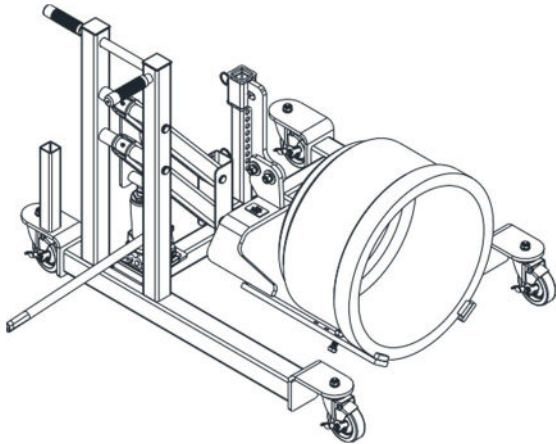

Figure 4
4. Attach the Brake Drum Adapter to the tool post on the Disc Brake Dolly in the direction shown in Figure 4. The Brake Drum Adapter should only be attached in the direction shown. Insert the hitch pin in the top position of the tool post.